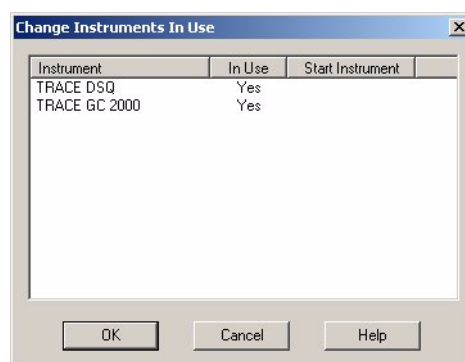

Figure 3-12 Sequence Setup-Change Instruments In Use Screen (manual injections)
- Make sure the GC and MS instruments **Start Instrument** fields are empty (Fig. 3-12).